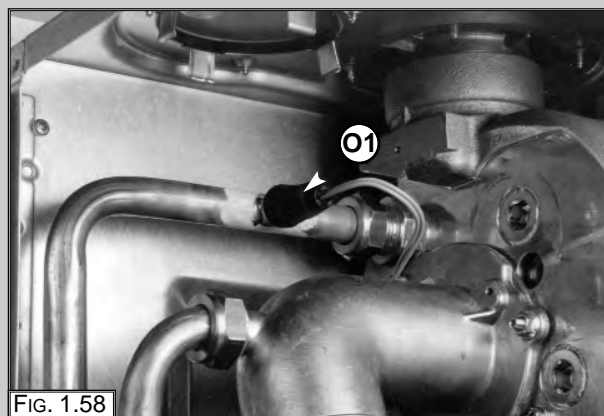

FIG. 1.58
1. Remove the electrical connector "O1" by pulling off (Fig. 1.58);